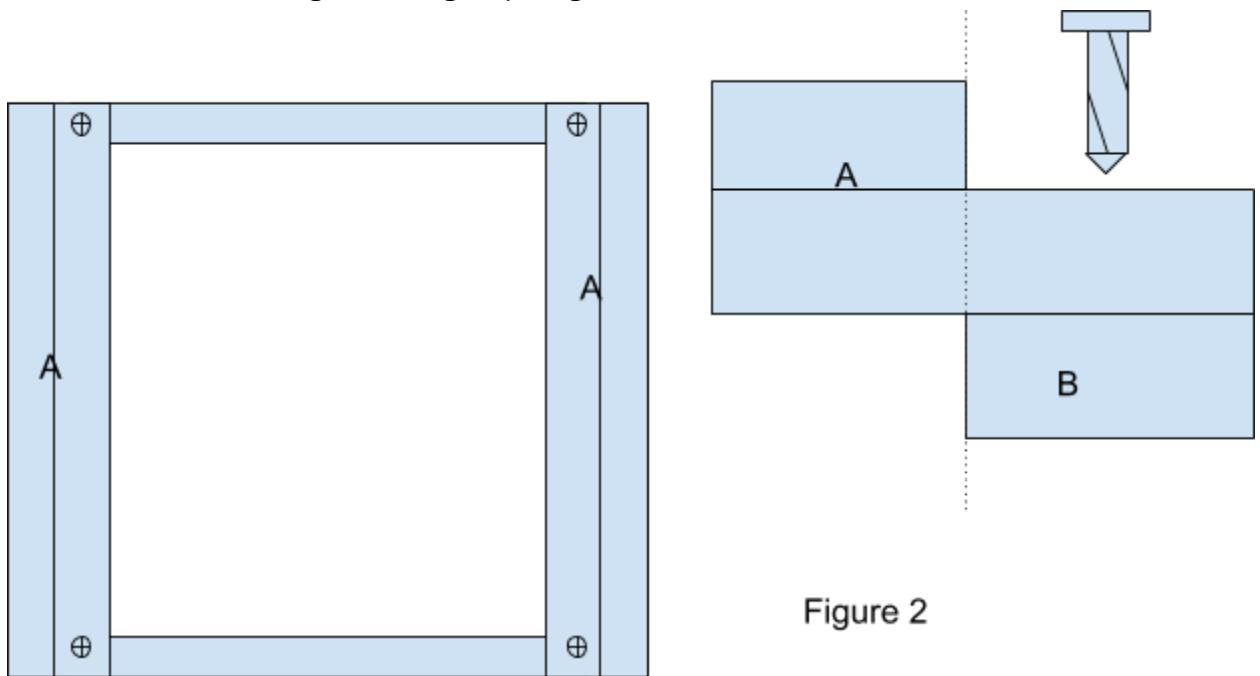

Figure 2
6. Drill holes slightly smaller than the diameter of the small screws (Fig 2)
7. Screw the boards together tightly (Fig 2)